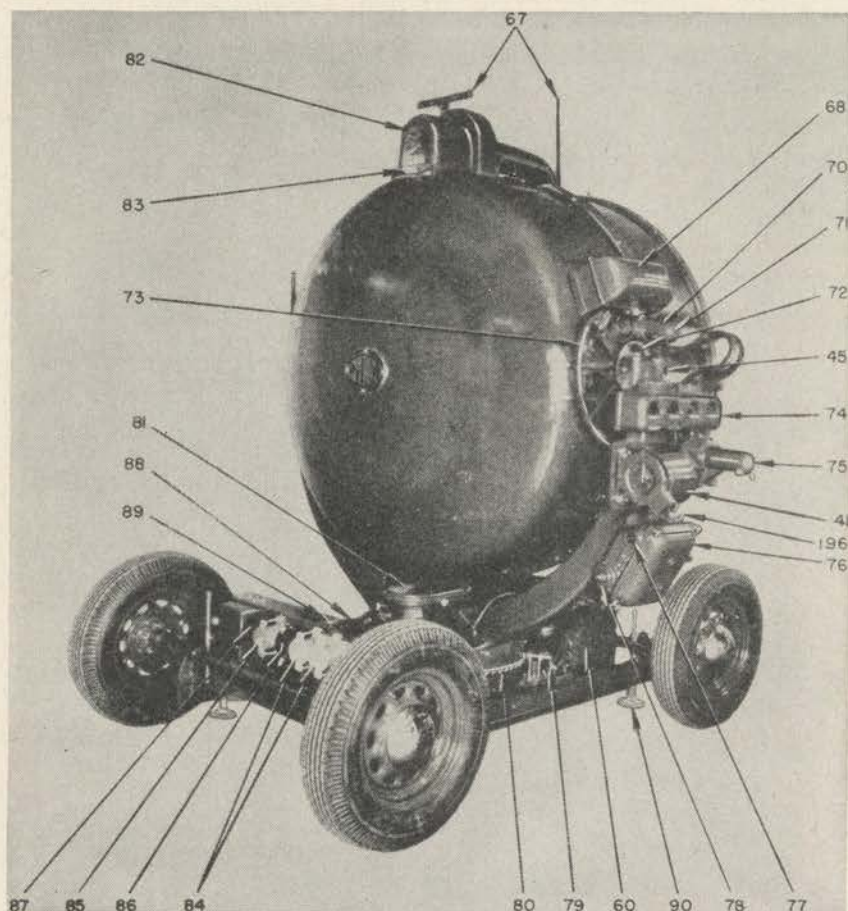

FIGURE 3.—Sperry M1941 antiaircraft searchlight (rear quarter view).
41. Elevation control motor.....	See figure 3.